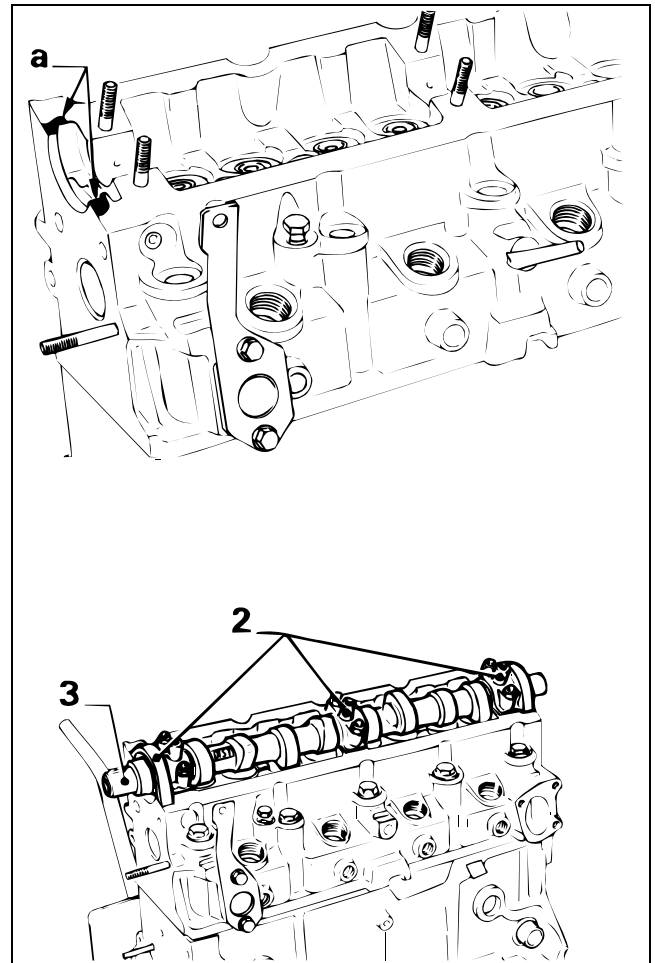

Figure 87
11. Apply a thin coat of Formetanch or Permatex No. 2 sealant to each end of the bearing housing at (Fig. 87, Item a).